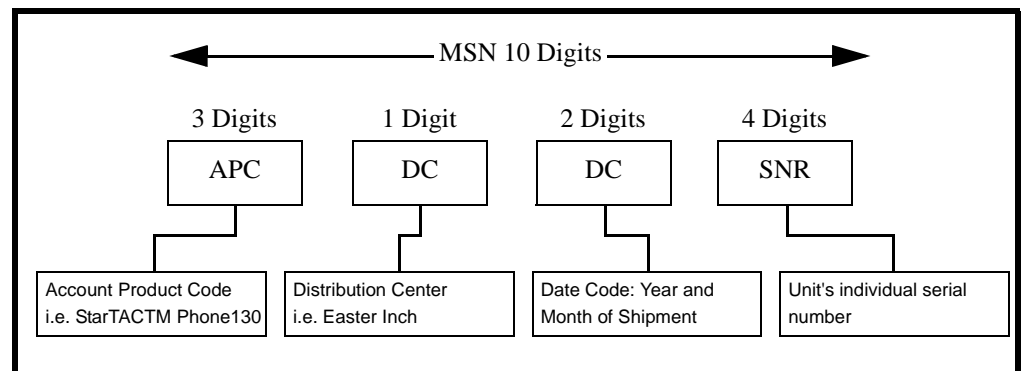

Figure 21. MSN Label Breakdown
- The MSN is divided into 4 sections as shown in Figure 21.